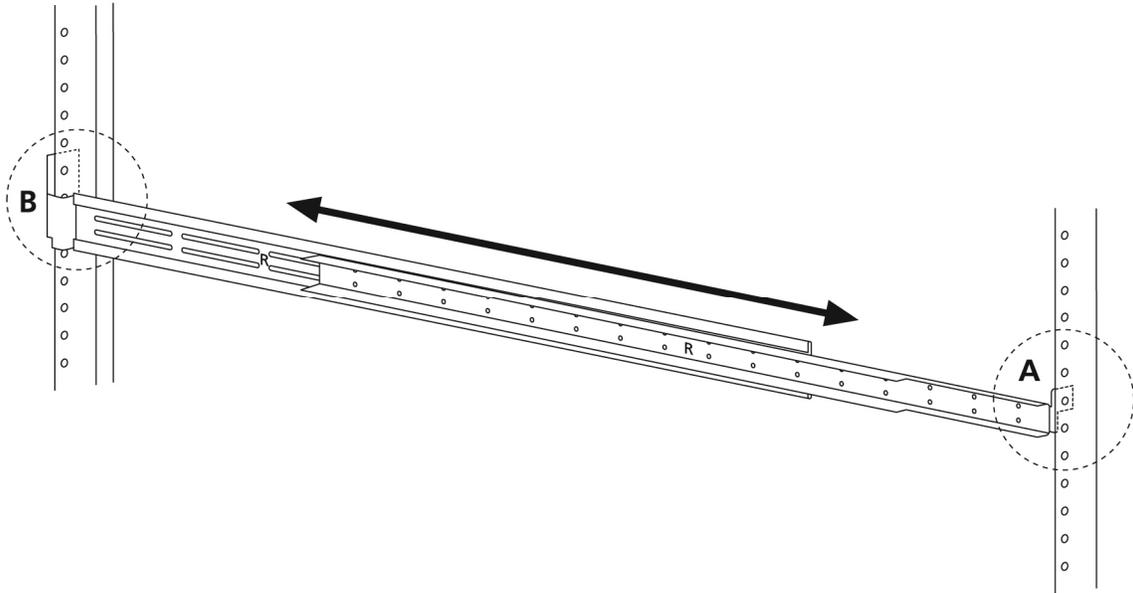

Figure 3. Determining Length of Side Rack Supports
1. Determine the length of the side support by aligning the two pieces of the side mount with the rack as shown in Figure 3.
- The front side support is flush against (behind) the rack as shown in A (Figure 3).
- The back side support is flush against (behind) the rack as shown in B (Figure 3).